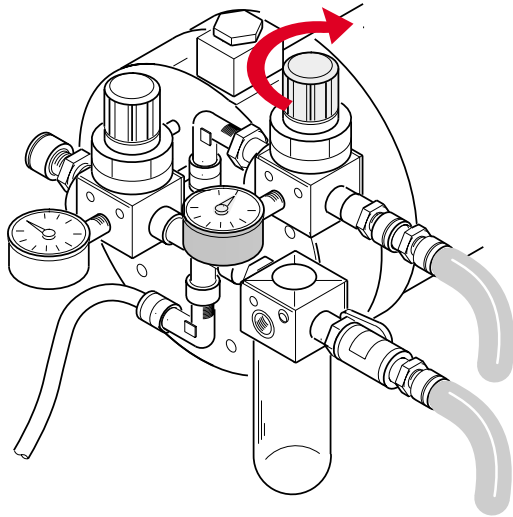

Fig.33
10) Regulate the air pressure gun by taking it to a suitable value according to the type of product to be delivered (fig. 33).